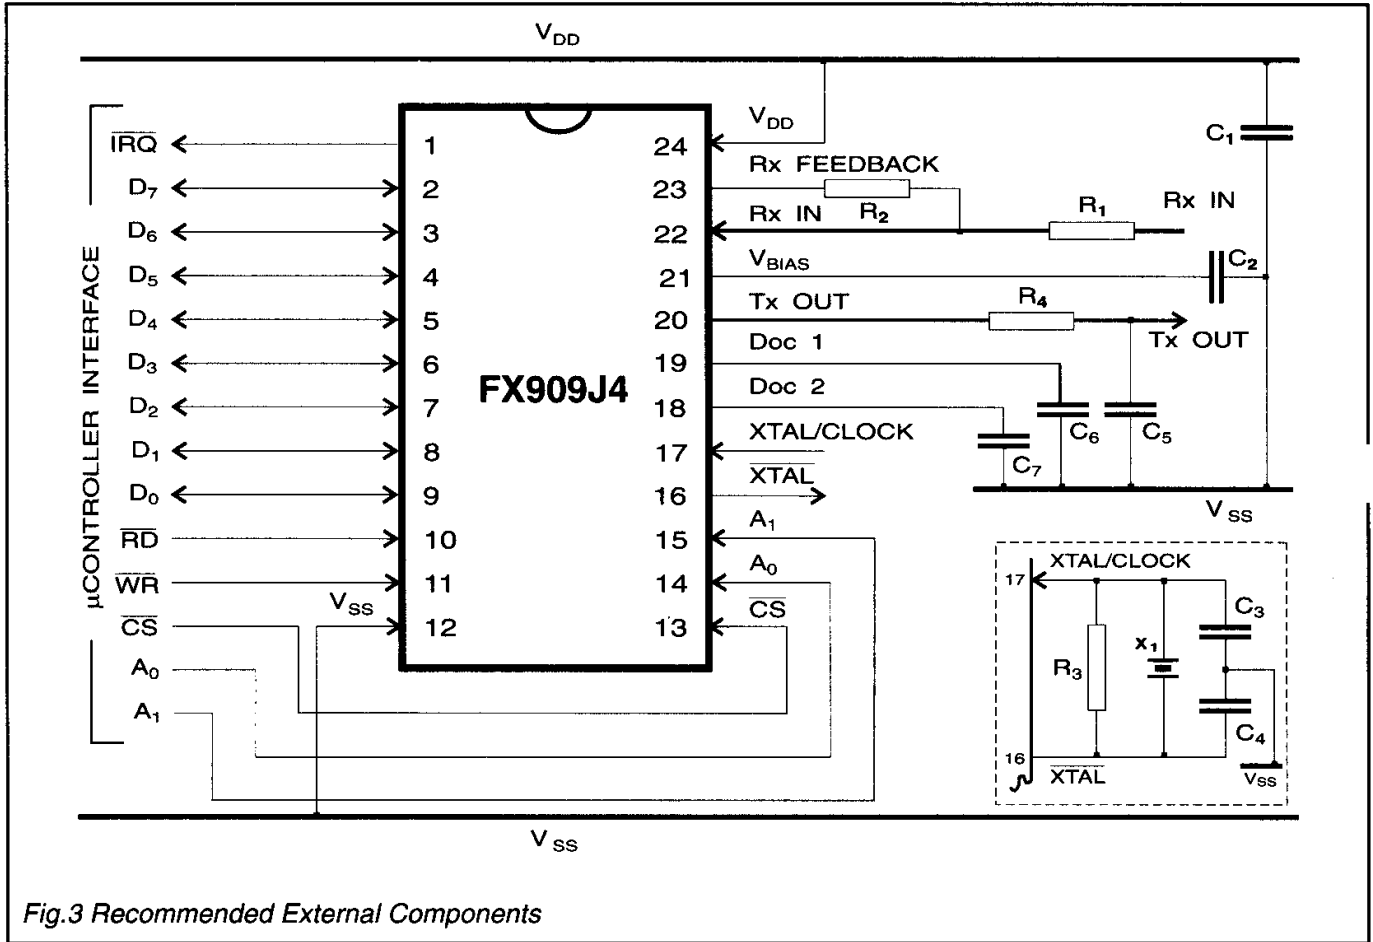

Fig.3 Recommended External Components
18	<p>Doc 2: Connections to the internal Rx signal level measurement circuitry. Capacitors as described in Figure 3 should be fitted between each of these pins and <math>V_{\text{SS}}</math>.</p>
- If the on-chip Xtal oscillator is to be used, then the external components  $X_1$ ,  $C_3$ ,  $C_4$ , and  $R_3$  are required as shown in Figure 3 (inset).